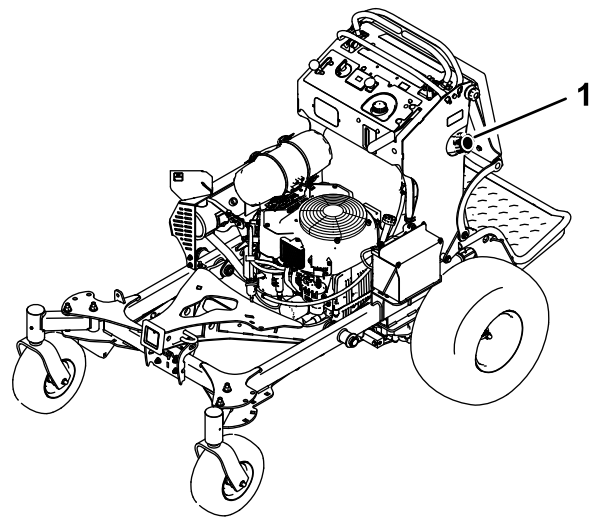

Figure 43
3. Clean around the fuel cap to prevent debris from getting into the fuel tank (Figure 43).
6. Using the syphon pump, drain the fuel into a clean gas can (Figure 43).